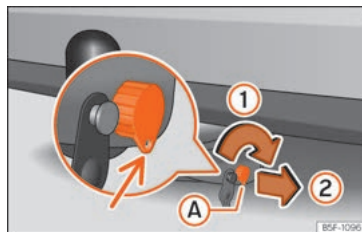
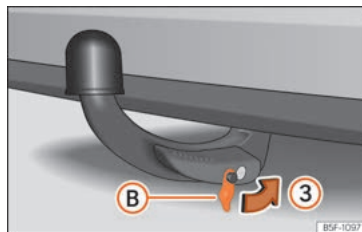

Fig. 296 Locking the lock.
Fig. 297 Placing the cover over the lock.
- Turn key **A** in the direction of arrow ① until the part of the key with the holes reaches the bottom position » **Fig. 296**.
- Remove the key in the direction of arrow ②. »
- Place cover (B) in the lock in the direction of arrow (3) » Fig. 297 » 1.